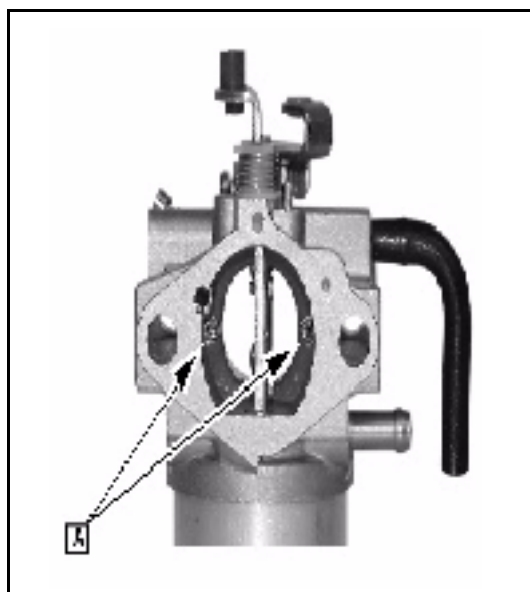

Fig. 34
**NOTE:** Engines with type numbers *not ending in A1 or E1* have removable idle and main air jets. Remove jets ([A] Fig. 34) with carburetor jet screwdriver (#19280).